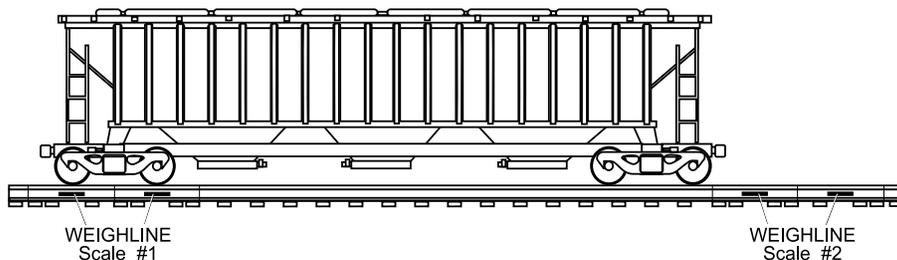

Figure 3
2. Move car so that rear truck is on the first scale and wheels positioned in the center of the Weighline sections. See Figure 3. Display will show first truck weight.